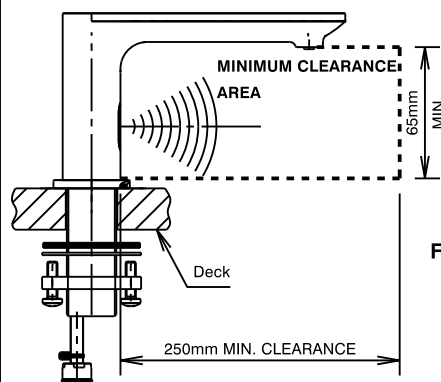

Fig. 8 - Sensor minimum clearance area
- \* The sensor window height is 18mm from the base and needs a clear space in front to operate properly as shown in Fig. 8. If the soap dispenser is to be installed behind an inset basin and the sensor window will be blocked, a matching riser piece can be purchased to raise the soap dispenser higher by 60mm.